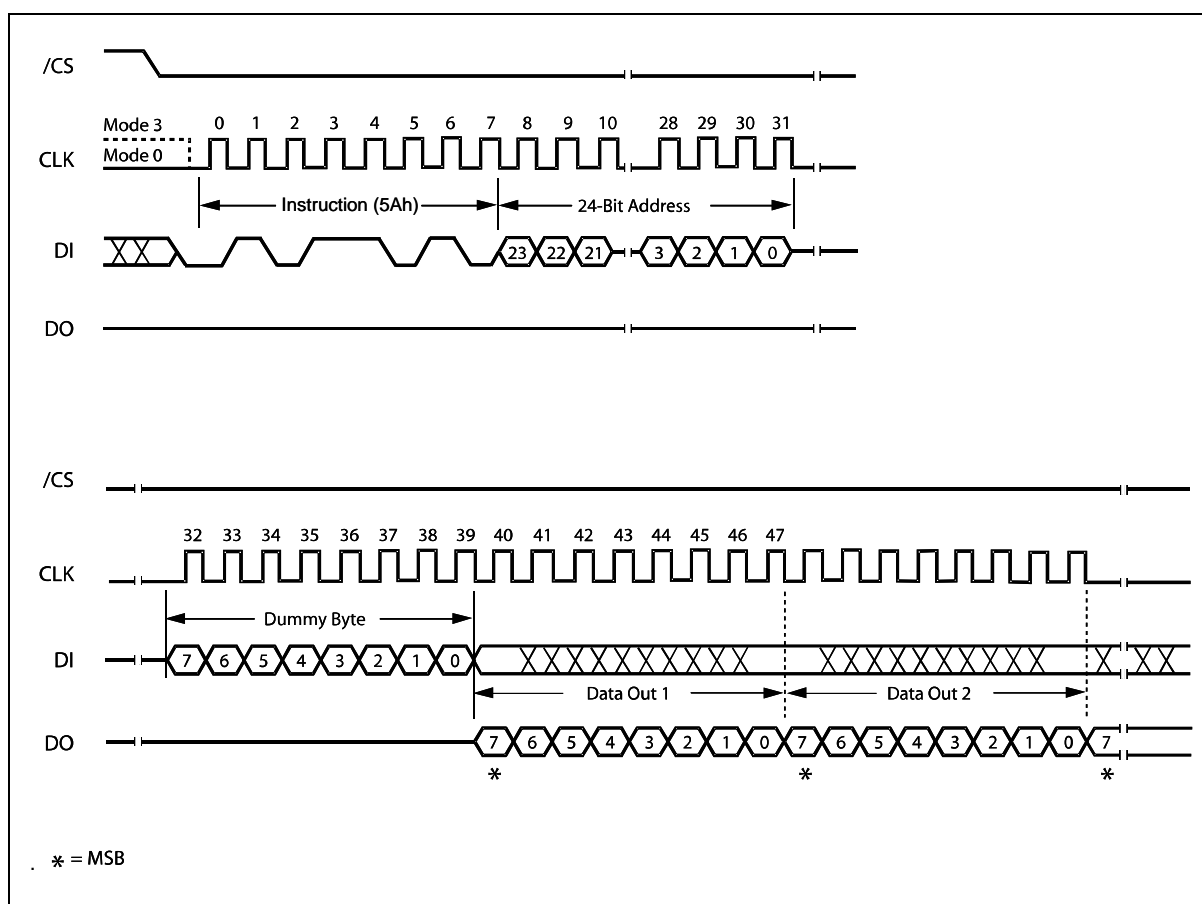

Figure 34b. Read SFDP Register Instruction Sequence Diagram
The Read SFDP instruction is initiated by driving the /CS pin low and shifting the instruction code “5Ah” followed by a 24-bit address (A23-A0)(1) into the DI pin. Eight “dummy” clocks are also required before the SFDP register contents are shifted out on the falling edge of the 40th CLK with most significant bit (MSB) first as shown in figure 34b. For SFDP register values and descriptions, please refer to the Winbond Application Note for SFDP Definition Table,